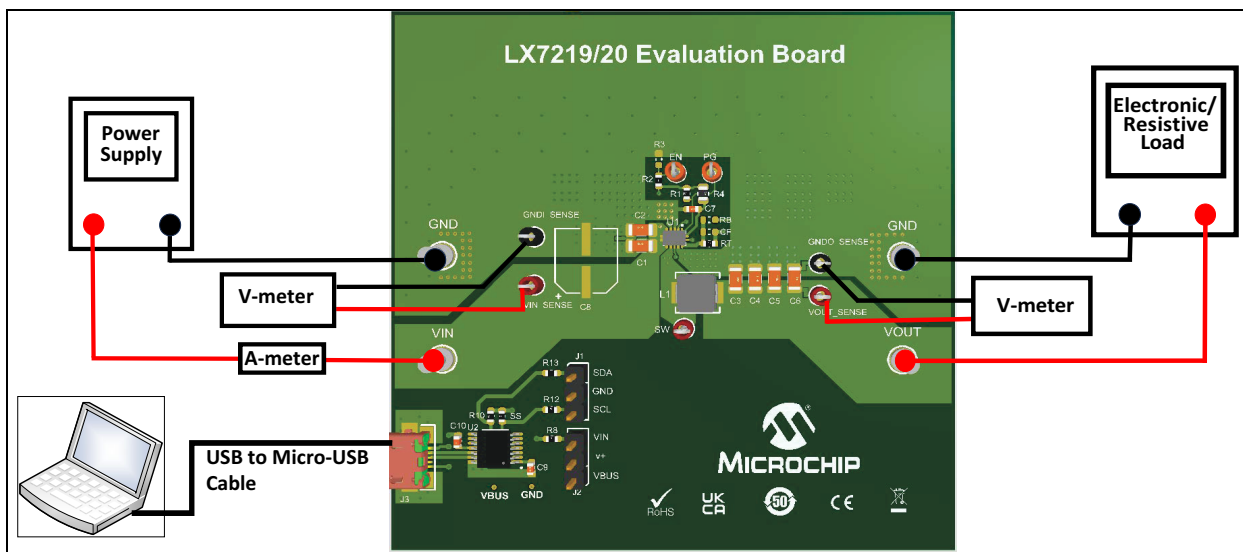

FIGURE 2-2: LX7219/20 Evaluation Board Test Setup.
- and the (-) side of the load to GND terminal of the board, see Figure 2-2.